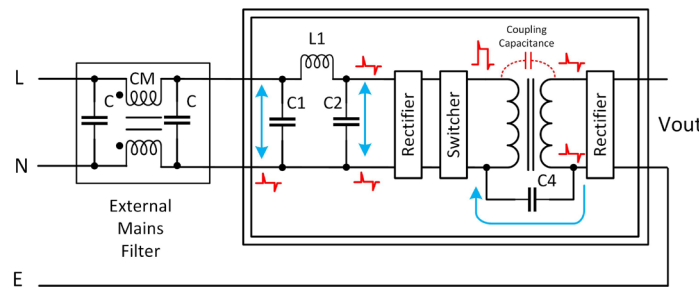

Figure 7: Ground-referenced output noise blocked by additional input filtering (schematic).
The solution to this problem is to provide additional input filtering to block the noise interference as shown in Figures 7 and 8. The external common mode (CM) mains filter stops the noise interference from being coupled back through to the earthed output.